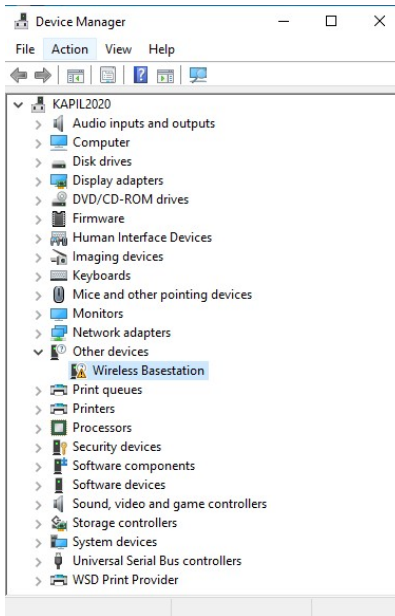

Figure 3.3: Missing USB driver for Wireless Base-station in Device Manager.
3. Check if *Wireless Base-station* appears under the *Other devices* tab with an exclamation mark (Figure 3.3).